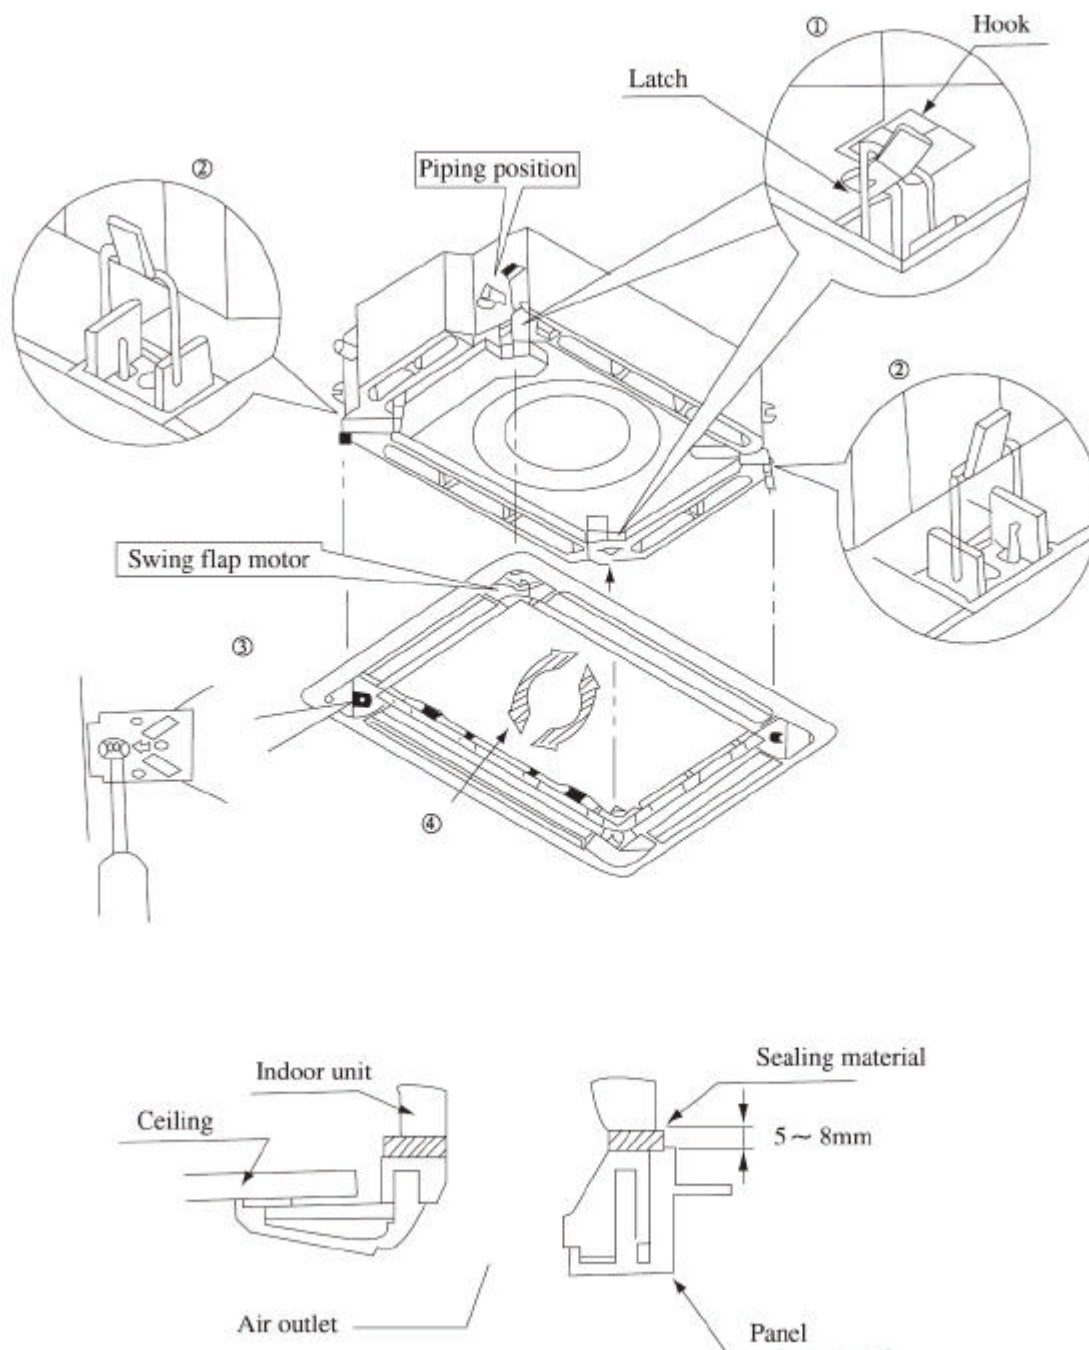

Fig.4
● Set the panel to the indoor unit body by matching the position of the swing flap motor of the decoration panel to the piping position of the panel to the piping position of the indoor unit as shown in fig.4.
- 4、 Adjust the panel by turning it to the arrowed direction in Fig.4 so that the ceiling opening is completely covered.